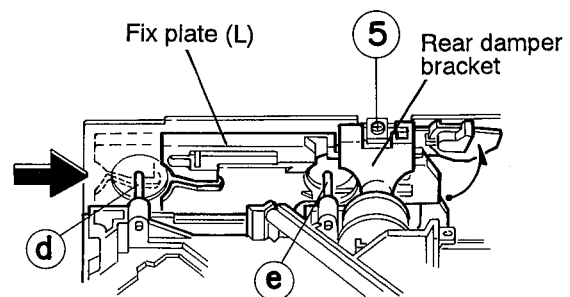

Fig. 4-17
2. While shifting the fix plates on the right and left sides respectively to the arrow direction, lower the entire CD mechanism. When the shafts (㉟, ㊱, ㊲ and ㊳) on both the right and left sides have been set free as shown in Figs. 4-17 and 4-18, then the assembly can be removed easily. Remove the two screws ⑤ retaining the rear damper bracket to make it easier to remove the damper from the rear damper bracket (See Figs, 4-10, 4-17 and 4-18).